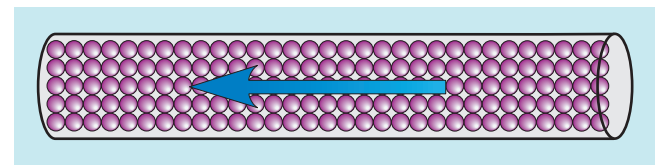
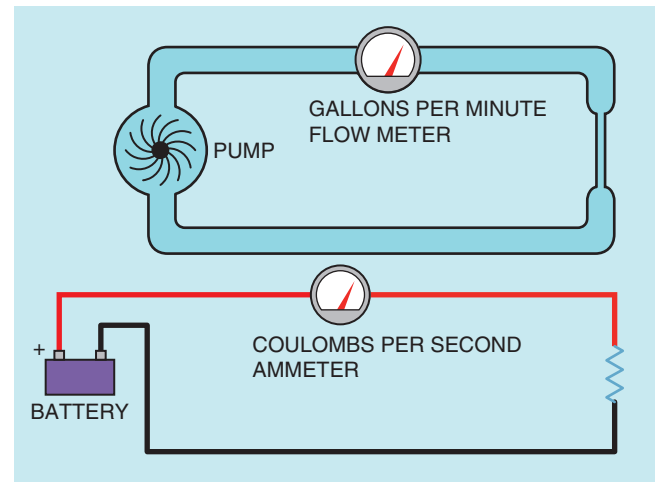

FIGURE 3-1 One ampere equals one coulomb per second.
FIGURE 3-2 Current in an electrical circuit can be compared to flow rate in a water system.
The **amp**, or ampere, is named for André Ampère, a scientist who lived from the late 1700s to the early 1800s. Ampère is most famous for his work dealing with electromagnetism, which will be discussed in a later chapter. The amp (A) is defined as one coulomb per second. Notice that the definition of an amp involves a quantity measurement, the coulomb, and a time measurement, the second. One amp of current flows through a wire when one coulomb flows past a point in one second (Fig. 3-1). The ampere is a measurement of the amount of electricity that is flowing through a circuit. In a water system, it would be comparable to gallons per minute or gallons per second (Fig. 3-2). The letter *I*, which stands for intensity of current, and the letter *A*, which stands for amp, are both used to represent current flow in algebraic